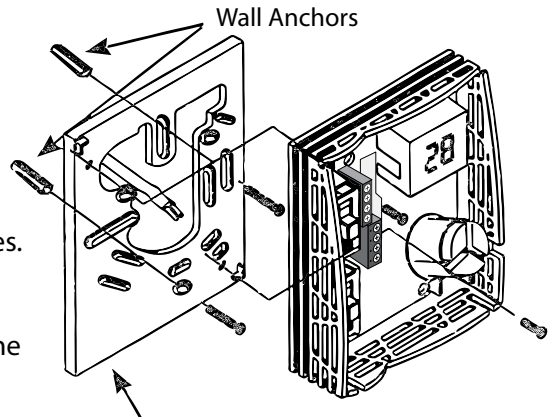

Figure 5
4. Drill holes in the wall through the 2 mounting holes in the back of the wall plate as shown in **Figure 5** and insert anchors into the holes.